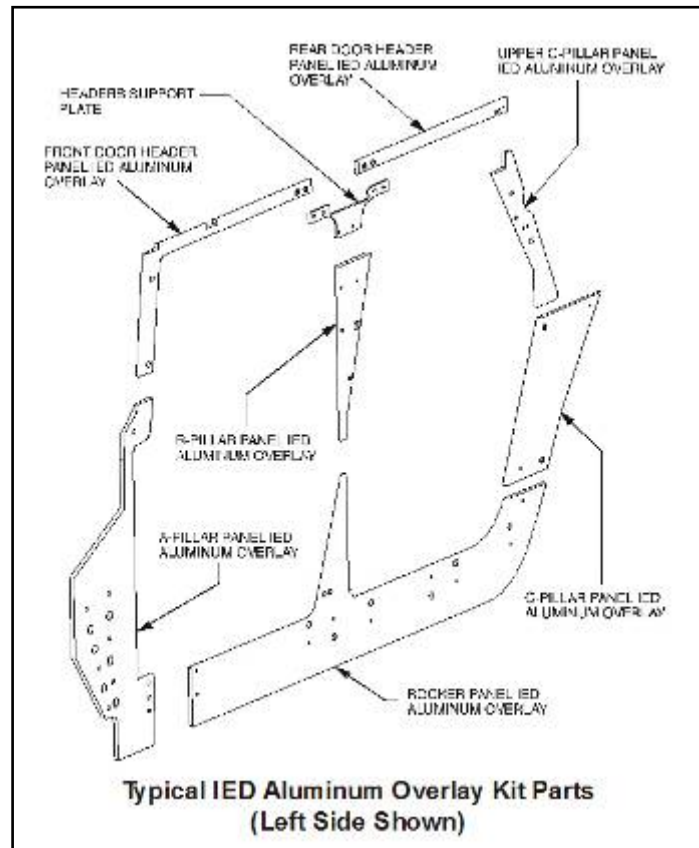

Figure 1.
4. Visually inspect vehicle to verify if IED aluminum overlay kit has been installed. Refer to figure 1. If IED aluminum overlay kit has been installed, continue to next step. Do not continue this procedure if IED aluminum overlays are not installed.